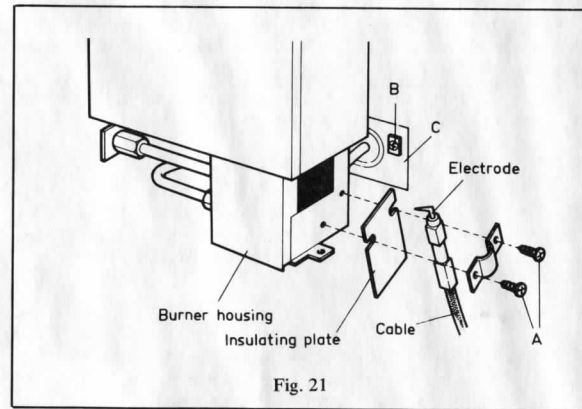

Fig. 21
Piezo Lighter RM 46, 66, 100 (FIG. 21)
2. Loosen fastening screw "A" (Fig. 21) holding the electrode against side of burner housing.
CAUTION: When fastening the electrode on the burner housing make sure that the insulating plate is properly fitted between the burner housing and the electrode (See Fig. 21).
3. Loosen the fastening screw "A" (Fig. 21) holding the electrode against side of burner housing.